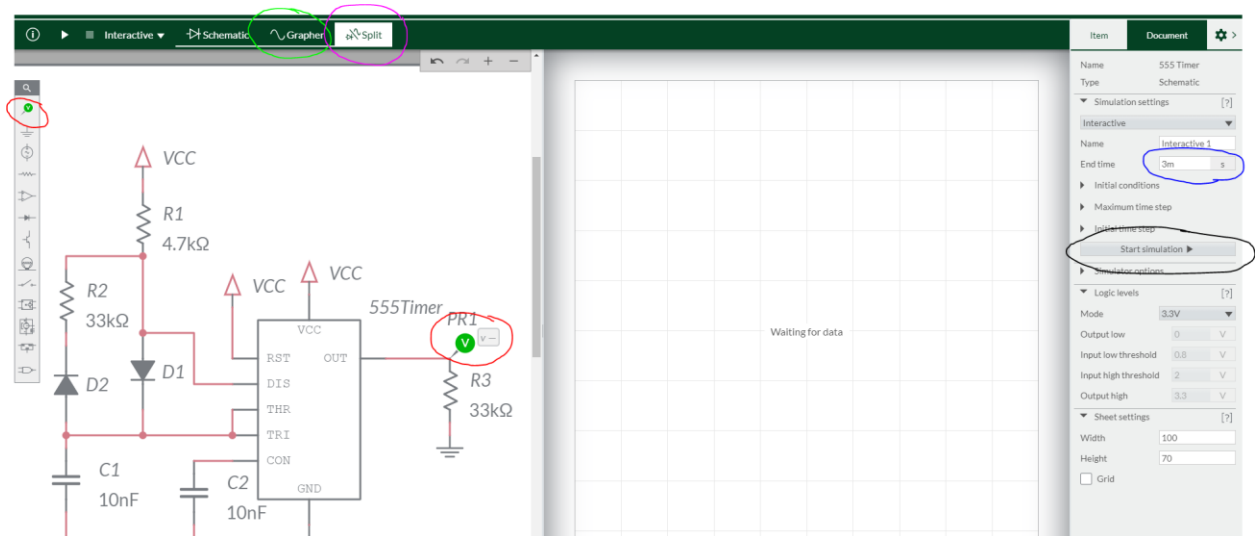

Figure 6: Setting up the 555-timer circuit for simulation.
1. Start by clicking on the **Analysis and annotation** tool and placing a Voltage probe on the out signal from the 555-timer (circled in red in Figure 6). This probe will measure the voltage on the out pin and record it in the timing window, much like an oscilloscope.
2. Click on the Split control (circled in fuchsia in Figure 6) to get a split the screen between the schematic and the timing windows.
3. Click on the white background of the schematic so that you get the properties menu for the schematic. Change the simulation time to 3ms (shown circled in blue in Figure 6).
4. Click on the Start simulation button (shown circled in black in Figure 6).
6. Click on the Grapher control (circled in green in Figure 6) to show the timing window as full screen.